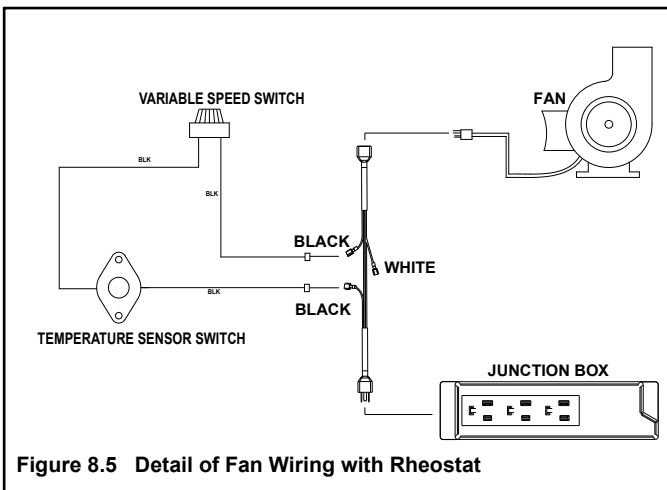

Figure 8.5 Detail of Fan Wiring with Rheostat
If the fan will not be installed for operation with a wall switch, the temperature sensor will need to be installed. See Figure 8.5 for location of the temperature sensor and fan control.
- Connect temperature sensor switch wire and rheostat switch wires to junction box as shown in Figure 8.5.